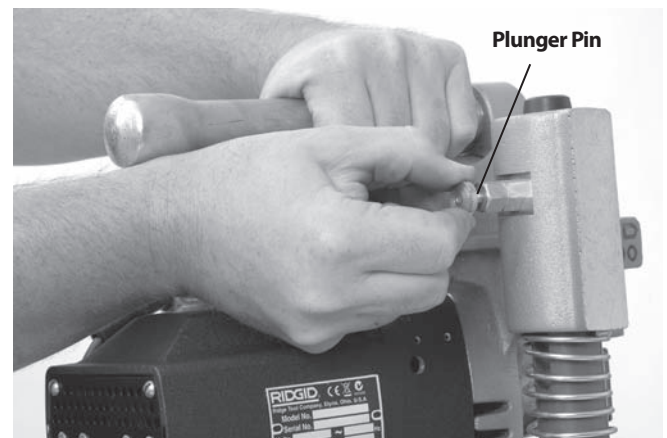

Figure 7 – Separating the Base and Motor Assemblies
- Broken, worn, missing, mis-aligned or binding parts. Make sure that the motor assembly moves smoothly and freely up and down the posts of the base assembly. Confirm that the chain and swivel handle move freely. On the HC-300, confirm that the plunger pin functions properly and retains the motor assembly to the base assembly (Figure 7).
1. With the HC-300 Hole Cutting Tool on a stable, secure surface, pull the plunger on the back of the left post (Figure 7) and lift the motor assembly off of the base assembly.